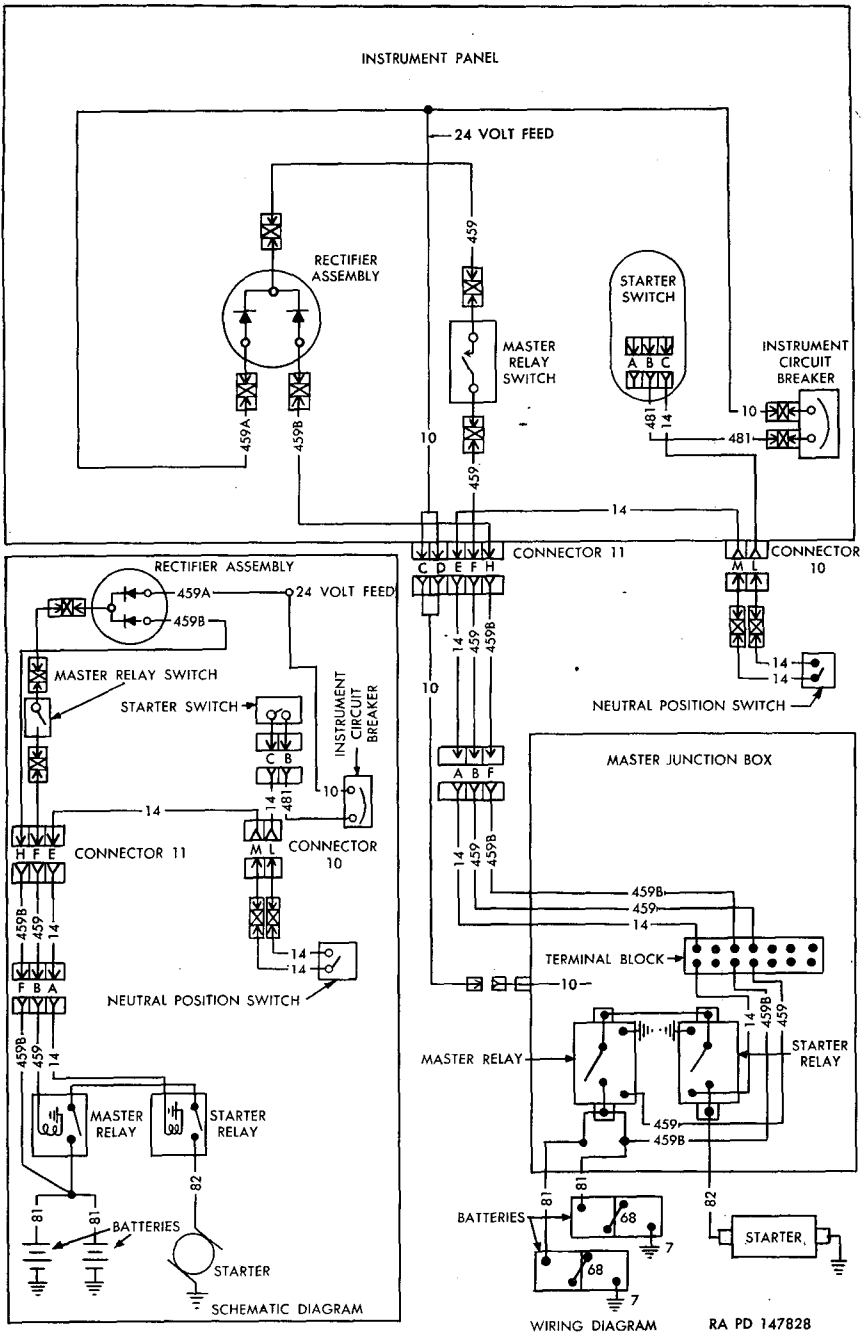

Figure 173. Starting system electrical diagram.
a. **STARTING SYSTEM WIRING.** The starting system wiring (fig. 173) consists of a low-current control circuit and high-current batteries-to-starter-motor circuit. The control circuit is fed from the batteries through the instrument circuit breaker to the starter switch, then through the neutral position switch into the starter current relay to ground. The main starting system circuit is fed from the batteries